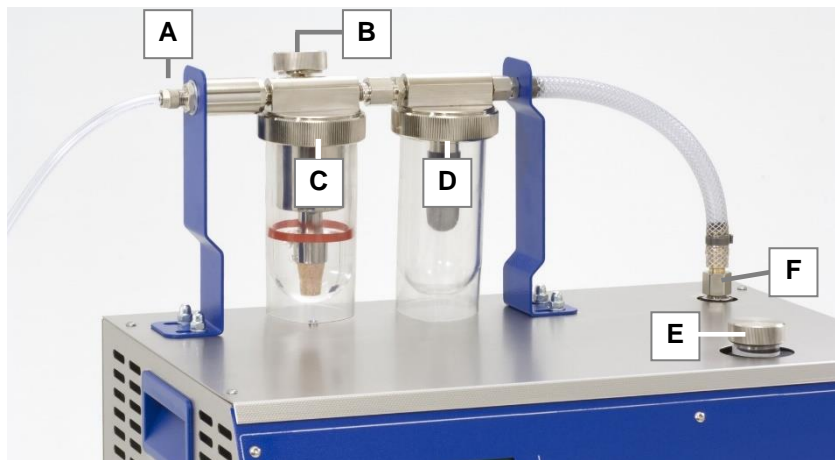

Fig. 6.1.1 Top part of Elmaflame unit
- Reactor** Use a 19 mm fork wrench to loosen the lock nut (*Fig. 6.1.1.F*) at the reactor outlet and remove the gas hose from the reactor.